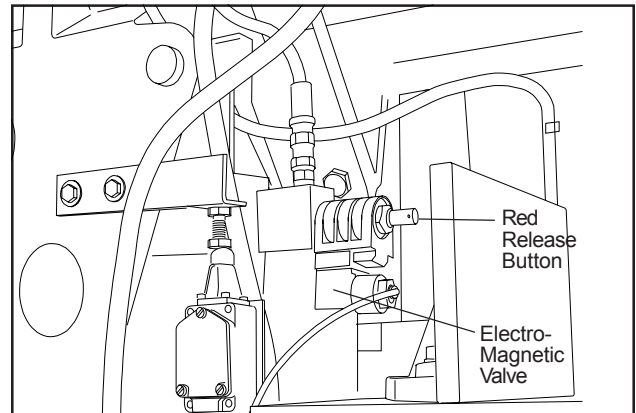

Figure 4: Lowering head with power off
5. A red release button on the electro-magnetic valve provides a means to lower the saw head when power to the machine has been disconnected (see figure 4).
4. To lower the saw head with power off, pull and turn the red knob (manual override) on the electro-magnetic valve (see figure 4).